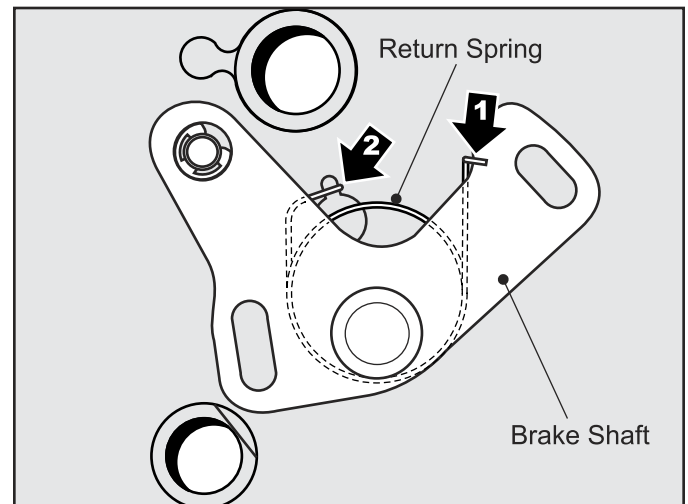

Fig. 6, Brake Shaft & Return Spring Assembly
5. Hook the Brake Return Spring to the Brake Shaft (see arrow ①); then, hook the opposite end of the spring to the Upper Case housing (see arrow ②). (Fig. 6)